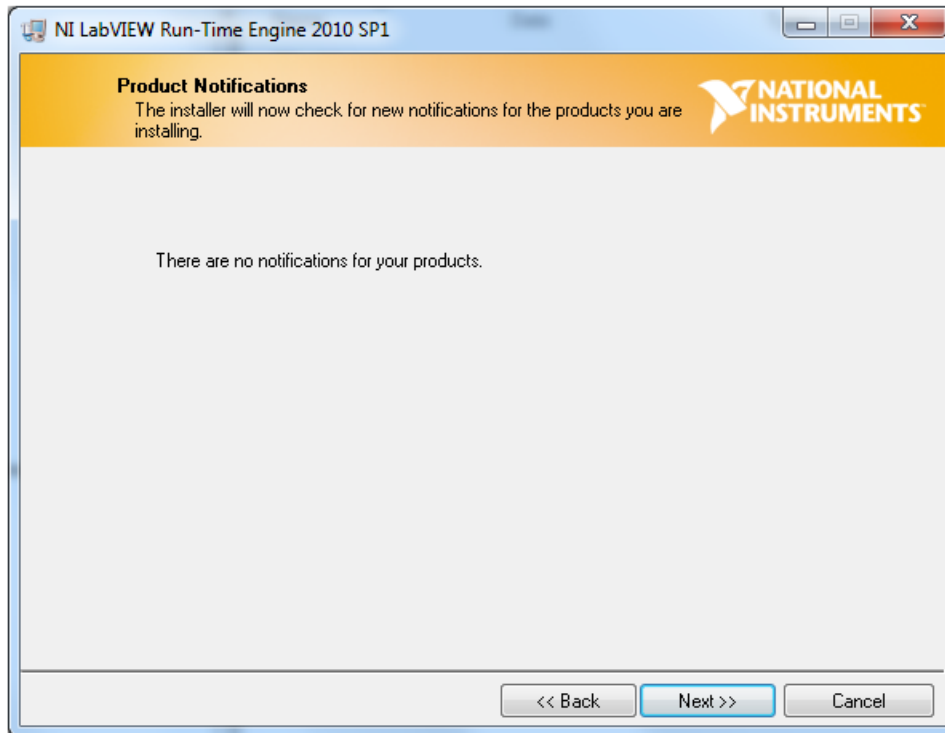

Figure 44. HMC-DAQ GUI Install (LabView Run-time Engine Installation)
11. Press the *Next* button, as in Figure 44.